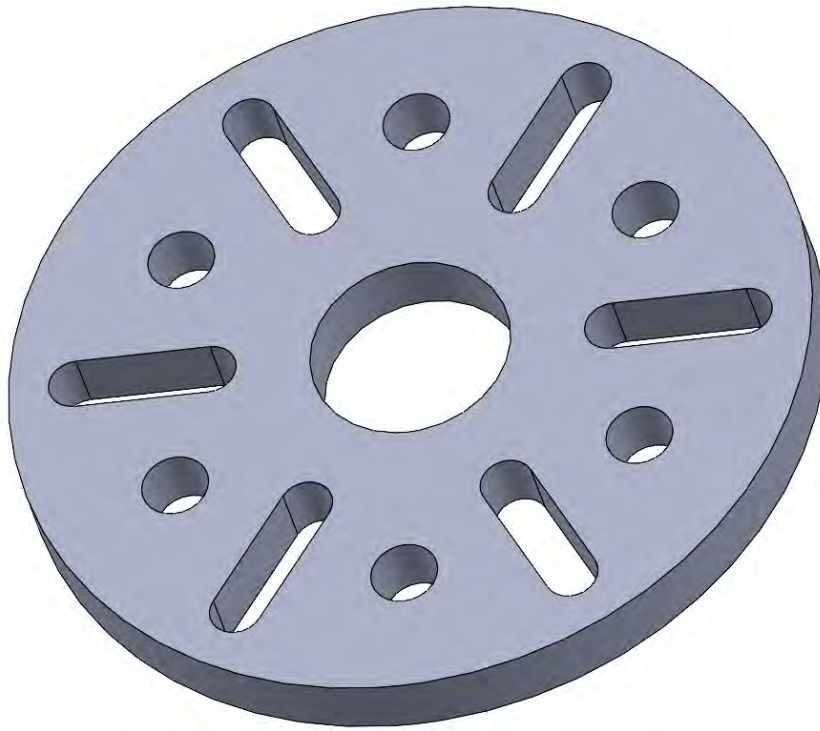

Fig. 10
- Click **OK** to complete the operation. A flat membrane model will be created with a thickness of 10 mm (Fig. 10).